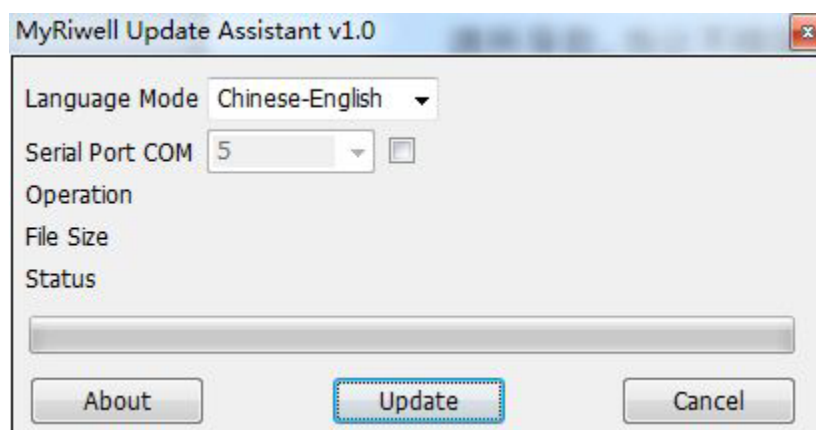

图 1
Problem analysis: the emergence of the phenomenon, there are two main reasons: first is the motor wiring loose or damaged due to the motor itself can not work normally, second, some problem with the travel switch (see Figure 1). According to statistics, most of the reason is that the travel switch issue.
4、 set the port number in the firmware update plug-in module as figure 1: